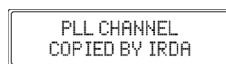

Figure 6
3. "COPIED BY IRDA" will appear on the receiver's LCD, indicating that the receiver has been successfully synchronized (Fig 6).